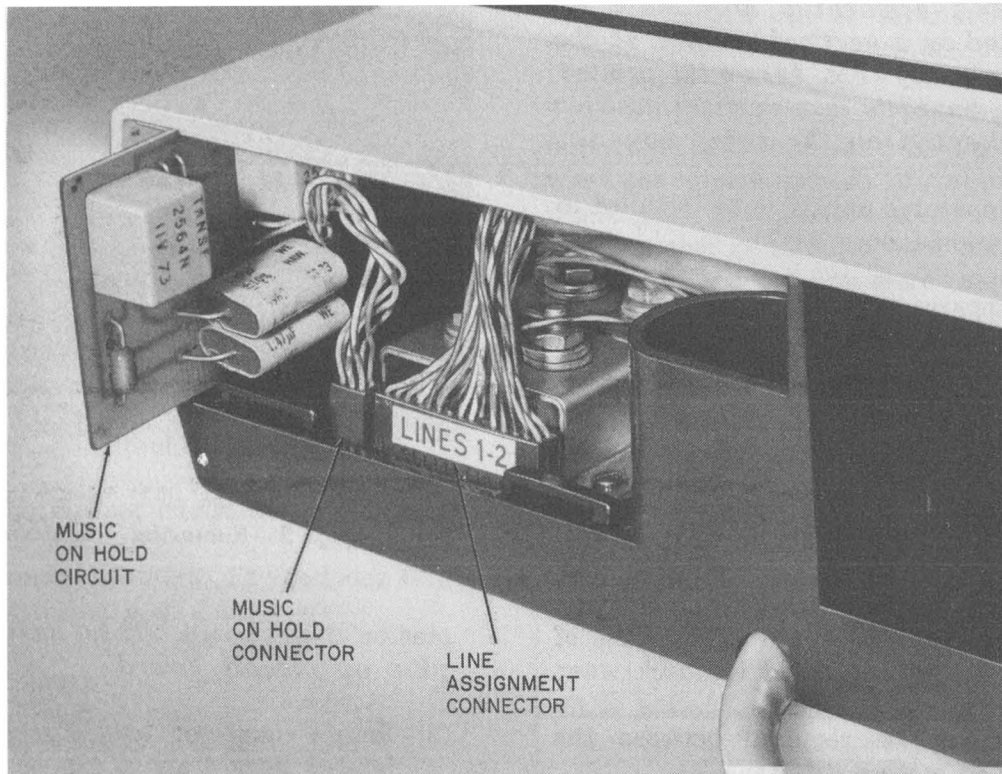

Fig. 6—Line Assignment Connector and Music-on-Hold Board
- (2) Remove line assignment connector (Fig. 6) by pulling straight up until connector clears
- (2) Insert music-on-hold circuit board vertically in slots provided in upper and lower housings (Fig. 6).
- (3) Plug in connector from circuit board to the pins provided as shown in Fig. 6. The connector may be plugged in either way.
- (4) Replace transformer and heat sink assembly.
- (5) Plug in power cord.